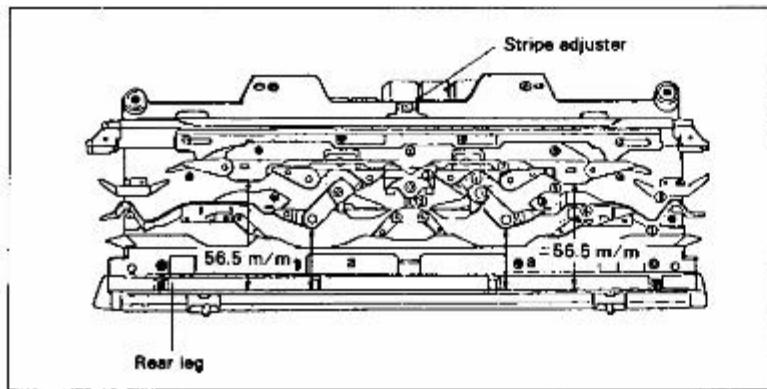

Fig. 5-4
Hint : When the stitch dial is set at 5, the length at the stitch cam: 32.5 mm. (Fig. 5-4).
1. Loosen the right and left guide cam A clamp screws and the plate clamp nut. Clamp again after adjusting the distance between guide cam A and the carriage rear leg to 56.6 mm. (Fig. 5-4).